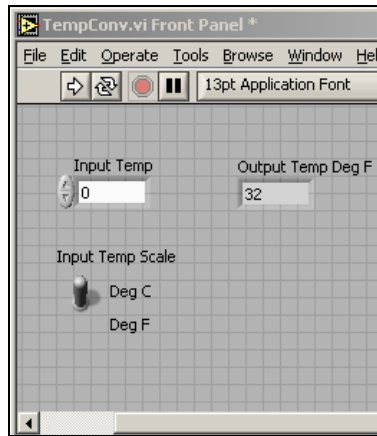

Figure 2.5: Front Panel for the Temperature Converter VI
- viii. The **Arrow** at the top of the window should now be **Solid**  and your VI should look something like Figures 2.5 and 2.6 on the next page (*except without one of the outputs on the block diagram, which will be introduced shortly*):